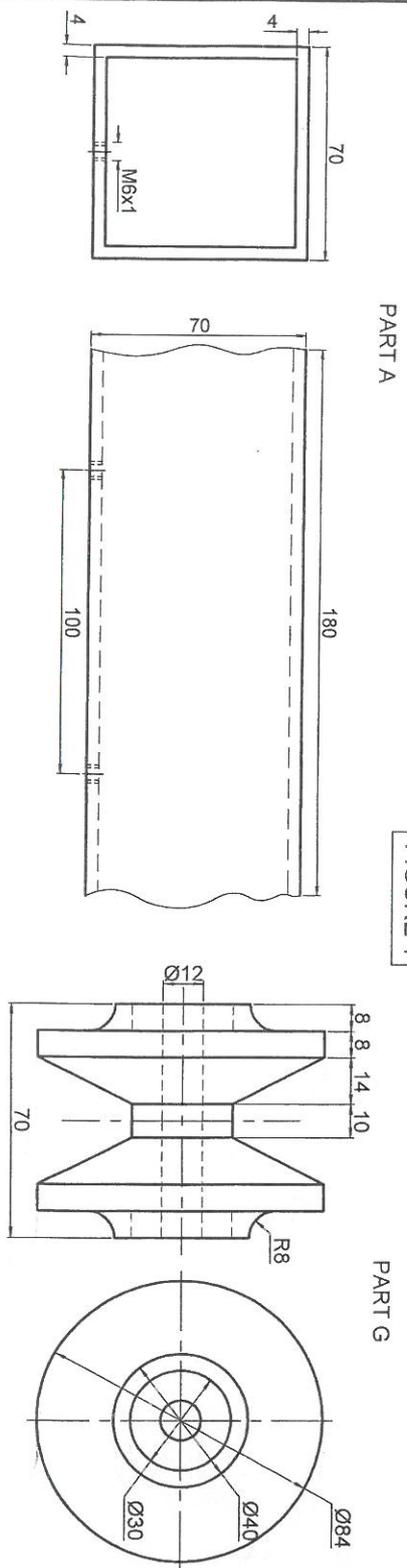

FIGURE 1
- Figure 1** shows the different components (not drawn to scale) that need to be assembled. Complete the following on answer sheet 4 to a **SCALE** of 1:1.